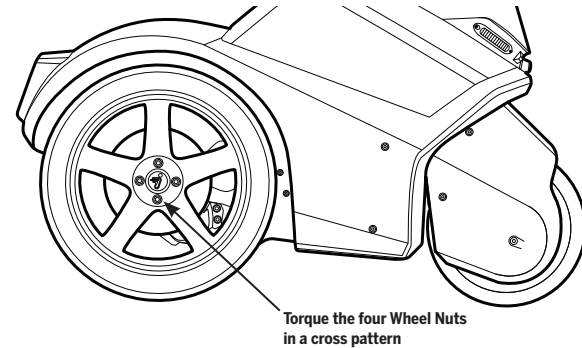

Figure 51: Installing a Rear Wheel
7. Using the wheel nut key, torque the four Wheel Nuts to **55 N-m (40 ft-lbf)**. Torque nuts in a cross pattern: top, bottom, left, right (**Figure 51**).